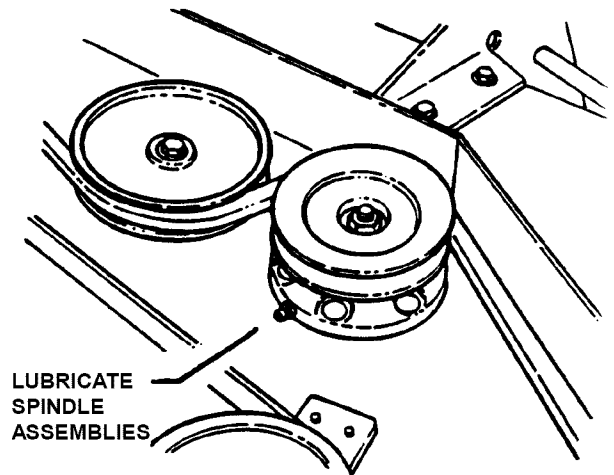

FIGURE 3.4
- b. Lubricate with Kendall NLGI No. 2 lithium grease or equivalent, from a grease gun until grease purges from vent located on spindle housing underneath deck. See Figure 3.4.